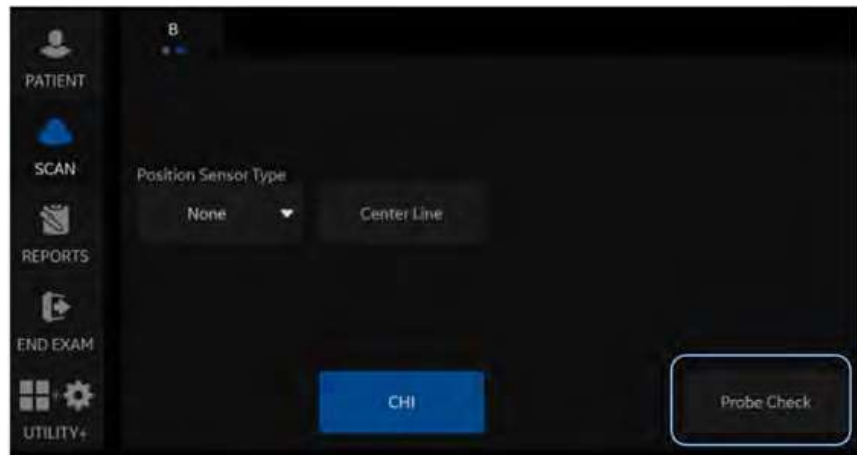

Figure 11-17. Probe Check
1. Select the **Probe Check** button on the Touch Panel (see Figure 11-17).